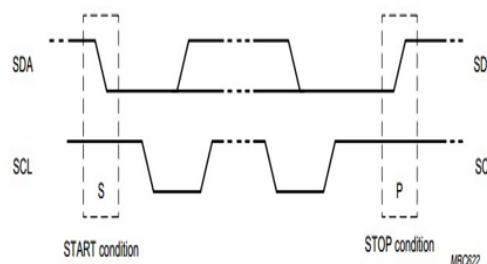

Figure 3: Connection of Standard-mode
Within the procedure of the I²C Bus, unique situations arise which are defined as START (S) and STOP (P) conditions (see Figure 3).
- (T) START condition: signals begin to transfer at this condition. A HIGH to LOW transition on the SDA line by master device while the SCL is HIGH.
- (U) STOP condition: A LOW to HIGH transition on the SDA line by master device while SCL is HIGH.